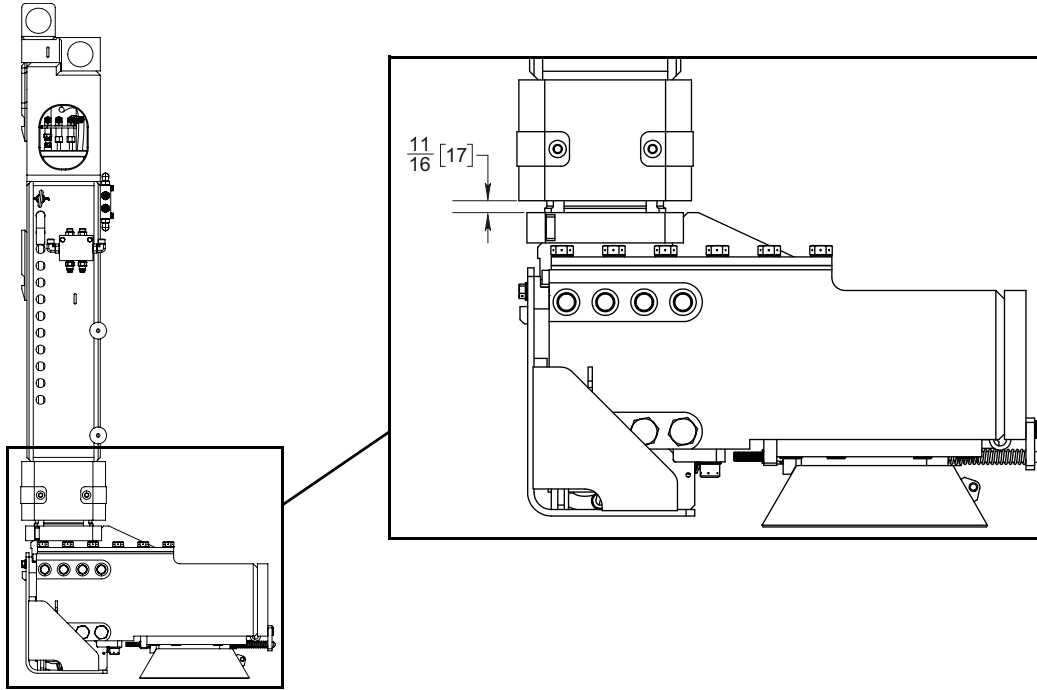

Figure 1: BUW retracted measurement
1. Inspect the BUW by removing the tool joint clamp of the lower well control valve (LWCV) and fully retracting the BUW cylinder. After the BUW is fully retracted, measure the gap between the end of the outer tube and the top surface of the boss of the inner tube as shown in Figure 1 on page 2.
2. The expected measurement of this gap should be $11/16$ " , but ensure the measurement taken in Figure 1 is no more than $1-3/16$ ". Inspect this dimension on a weekly basis until the cylinder is replaced with a new cylinder that provides a permanent solution. If the measure is over the specified maximum distance, remove the BUW cylinder and replace it. If a spare unit isn't available, contact your Canrig representative or RIGLINE 24/7™.